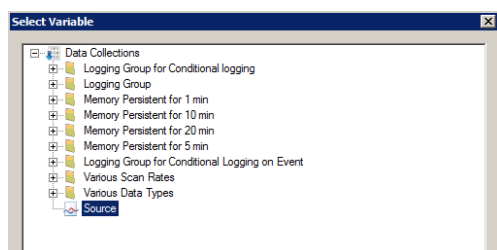

Figure 2 Tag Browser
3. Click on the ellipsis button next to the Data Point field to open the tag browser as shown in Figure 2.